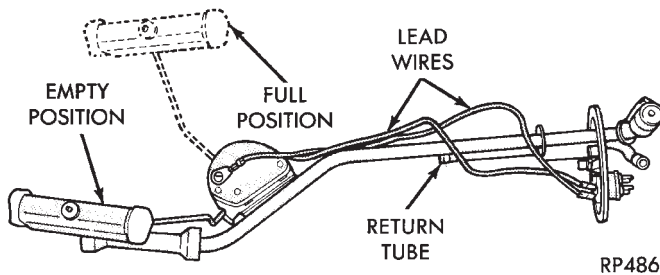

Fig. 3 Fuel Tank Sending Unit (Typical)
- (1) Disconnect wiring from fuel tank sending unit.
- (2) Connect wiring to a known good sending unit (Fig. 3).